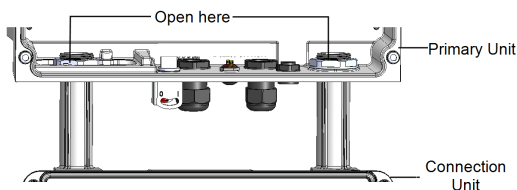

Figure 47: Conduit nuts
7. Unscrew the two conduit nuts in the Primary Unit securing the Connection Unit to it, see *Figure 47*.